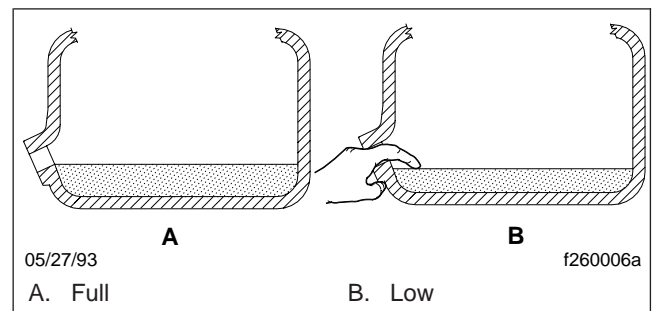

Fig. 8, Checking Transmission Oil Level
- Add oil until it is level with the lower edge of the fill opening. If the transmission has two fill openings, add oil to the level of both openings. See Fig. 8. See Table 1 for transmission lubricant capacities, and see Table 2 for approved transmission lubricants.